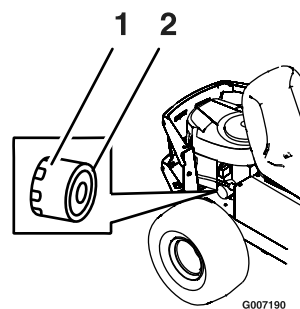

Figure 21
7. Remove the old filter and wipe off the mounting pad (Figure 21).
10. Install the replacement oil filter to the mounting pad. Turn the oil filter clockwise until the rubber gasket contacts the pad, then tighten the filter an additional 1/2 to 3/4 turn (Figure 21).